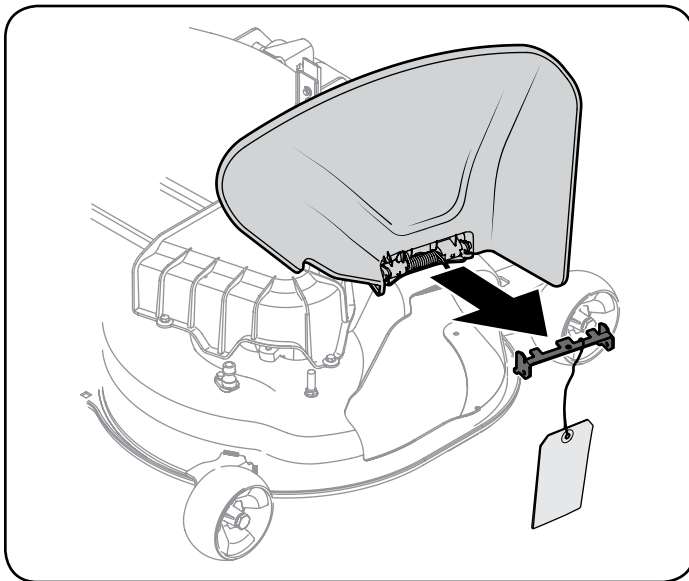

Figure 7
- Holding the chute deflector fully upward, remove the shipping brace. Lower the chute deflector and discard the shipping brace. See Figure 7.